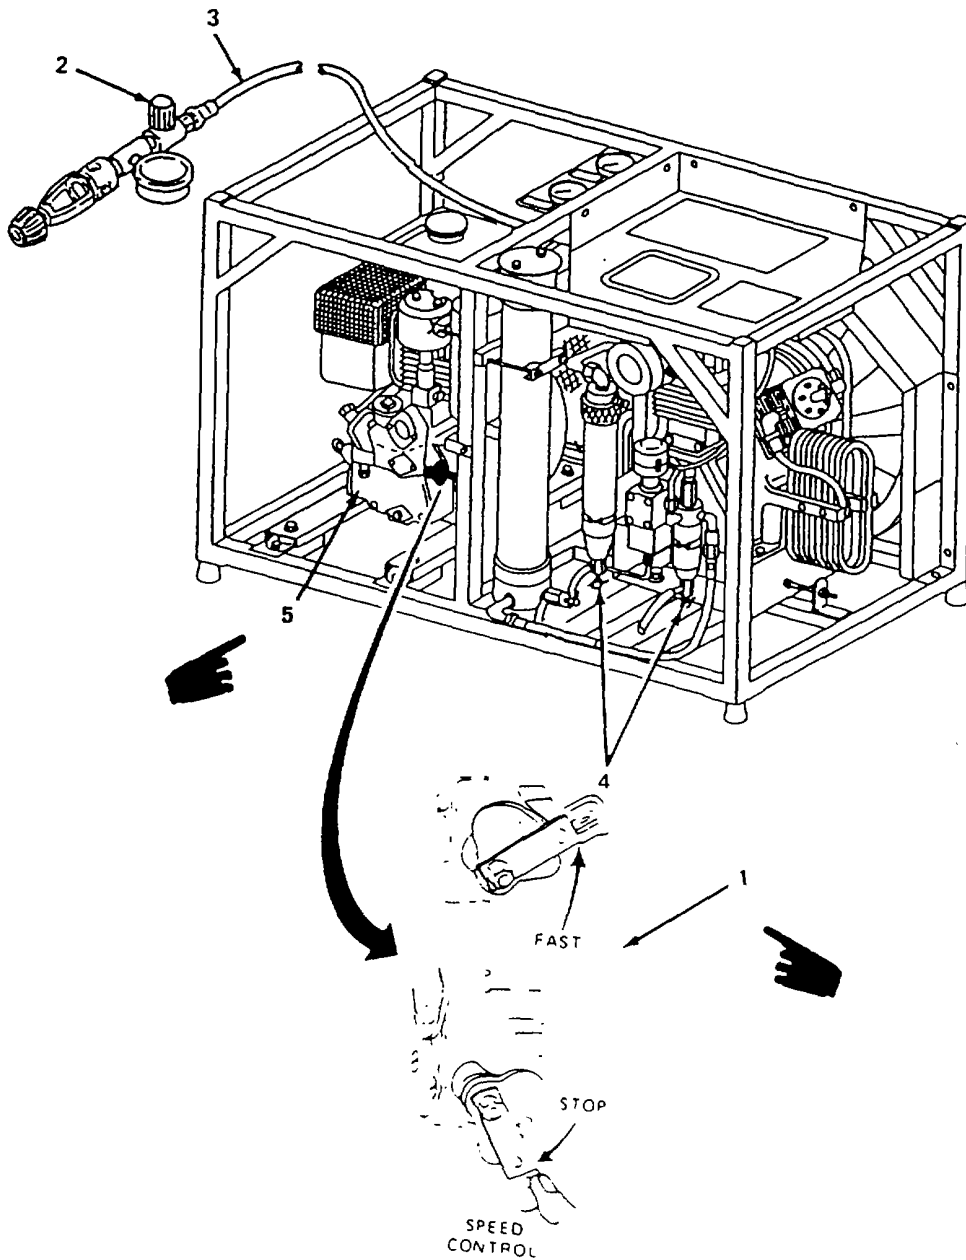

Figure 2-7. Shutdown Procedures.
(10) Open the vent valve (8) to relieve pressure.
(11) Loosen screw handle (5) and remove filler adapter (3).
(12) If more cylinders are to be refilled, repeat steps 3 through 11.
(13) Install duct cap in filler adapter (3) and tighten.
(14) Shut down compressor (para. d.).
d. Compressor Shutdown Procedures. (figure 2-7)
(1) Push the speed control lever (1) down to IDLE position.
(2) Vent the unit, by means of the bleed valve (2) on the filler adapter (3), until the pressure is reduced to approximately 700 PSI. Close bleed valve (2).
- (3) Push the speed control lever (1) down to STOP position and hold lever down until engine stops.
- (4) After engine has completely stopped, move speed control lever (1) to fast position.
- (5) Release condensate and depressurize unit by means of condensate drain valves (4).
- (6) Close drain valves (4).
- (7) Pull cold start primer (5).
- (8) Perform after operation PMCS (table 2-1).